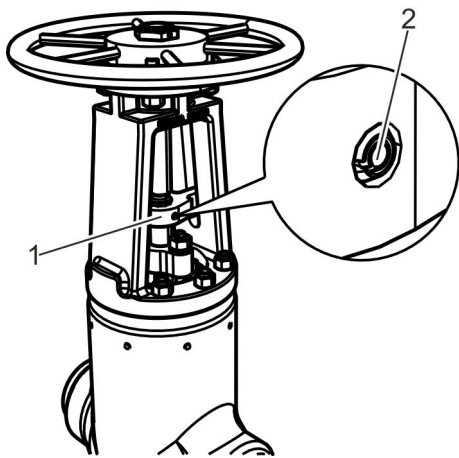

Fig. 26: Fastening the anti-twist device
15. ▶ If the anti-twist device is present: Mount the anti-twist device (Fig. 26/2).